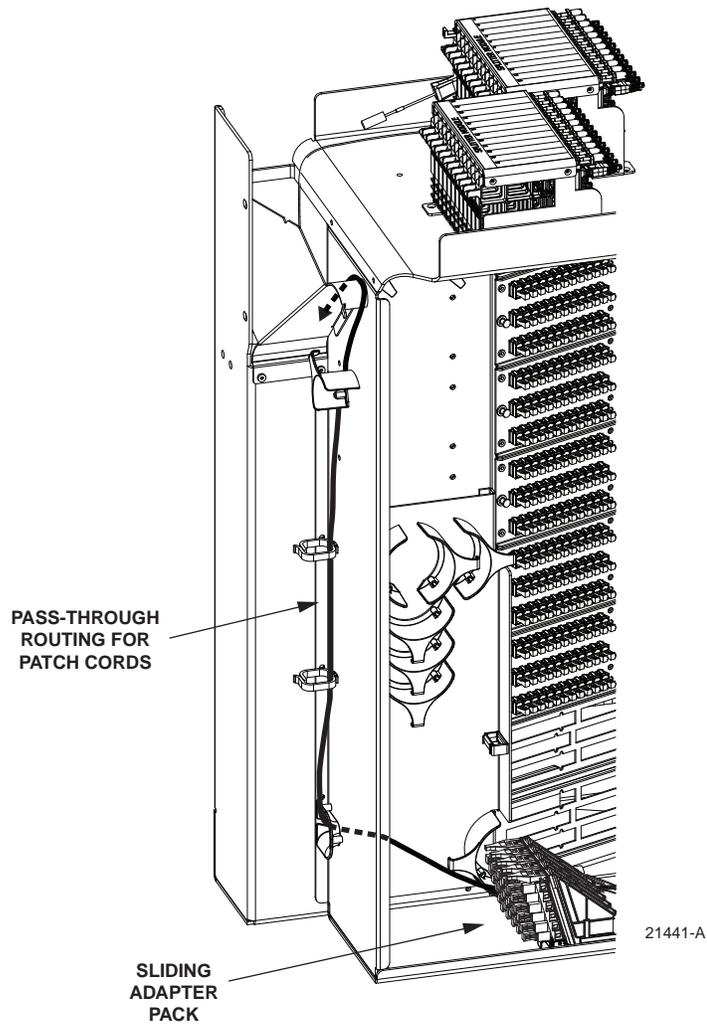

Figure 29. Routing Pass-Through Patch Cord From Sliding Adapter Pack
7. Route the pass-through patch cord to the front side of the swing-out assembly as shown in Figure 29.